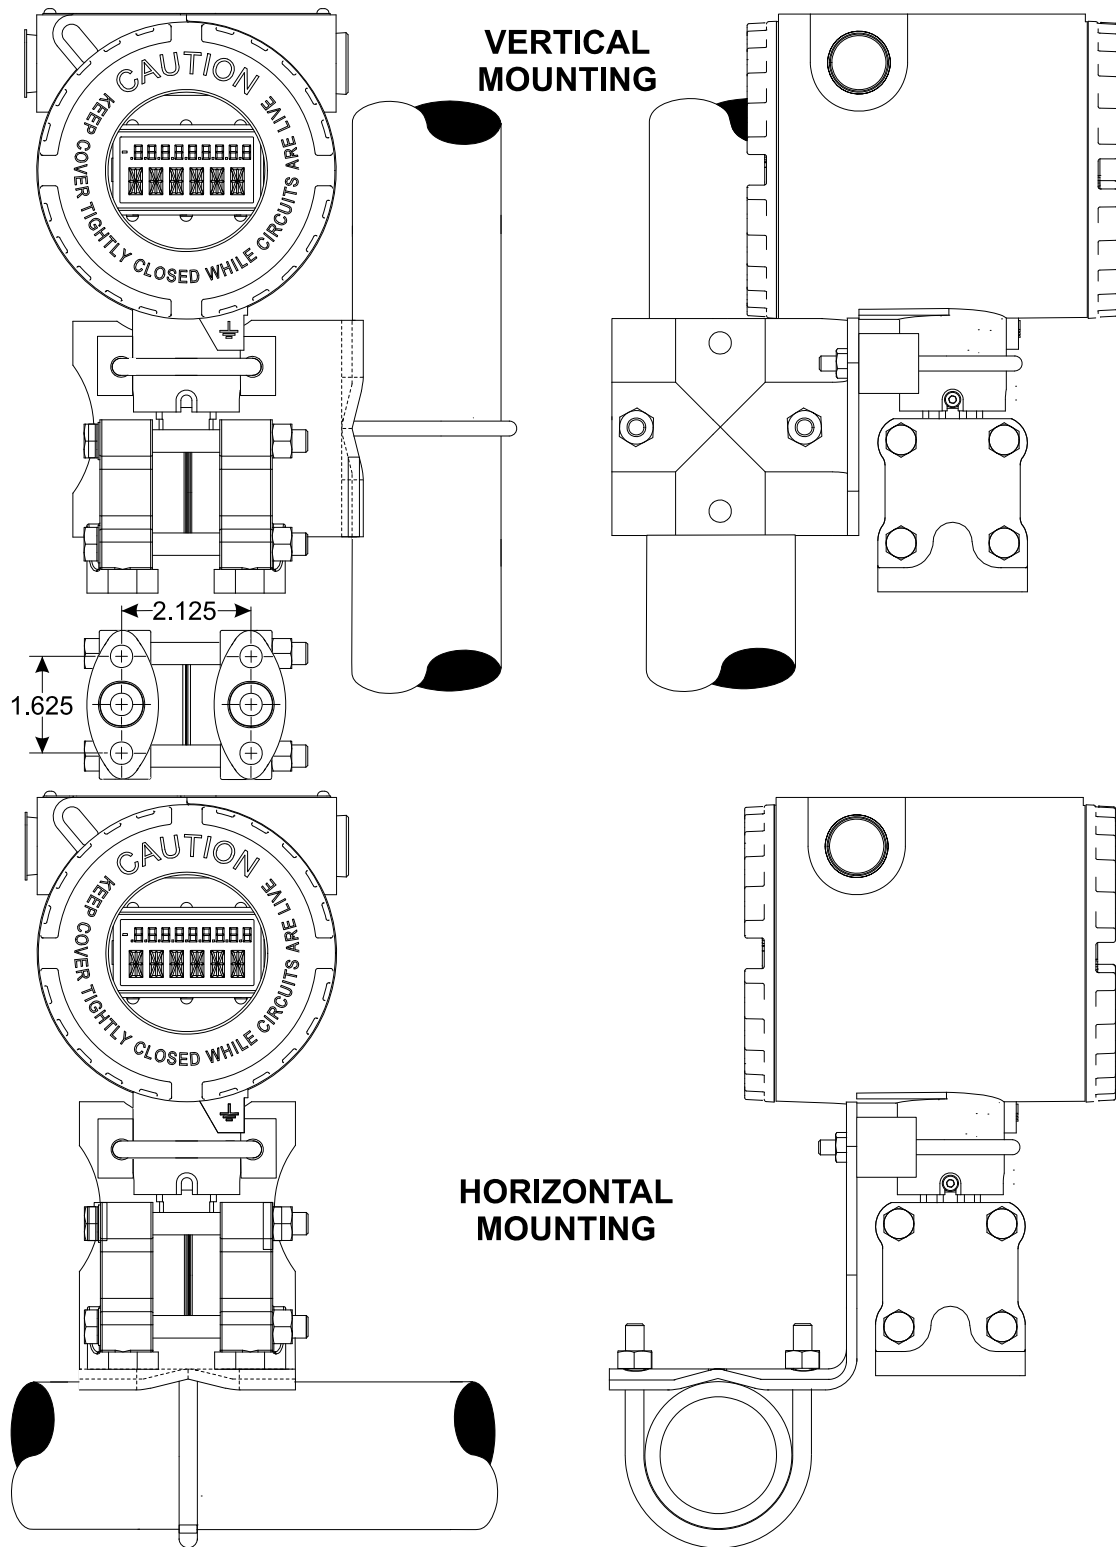
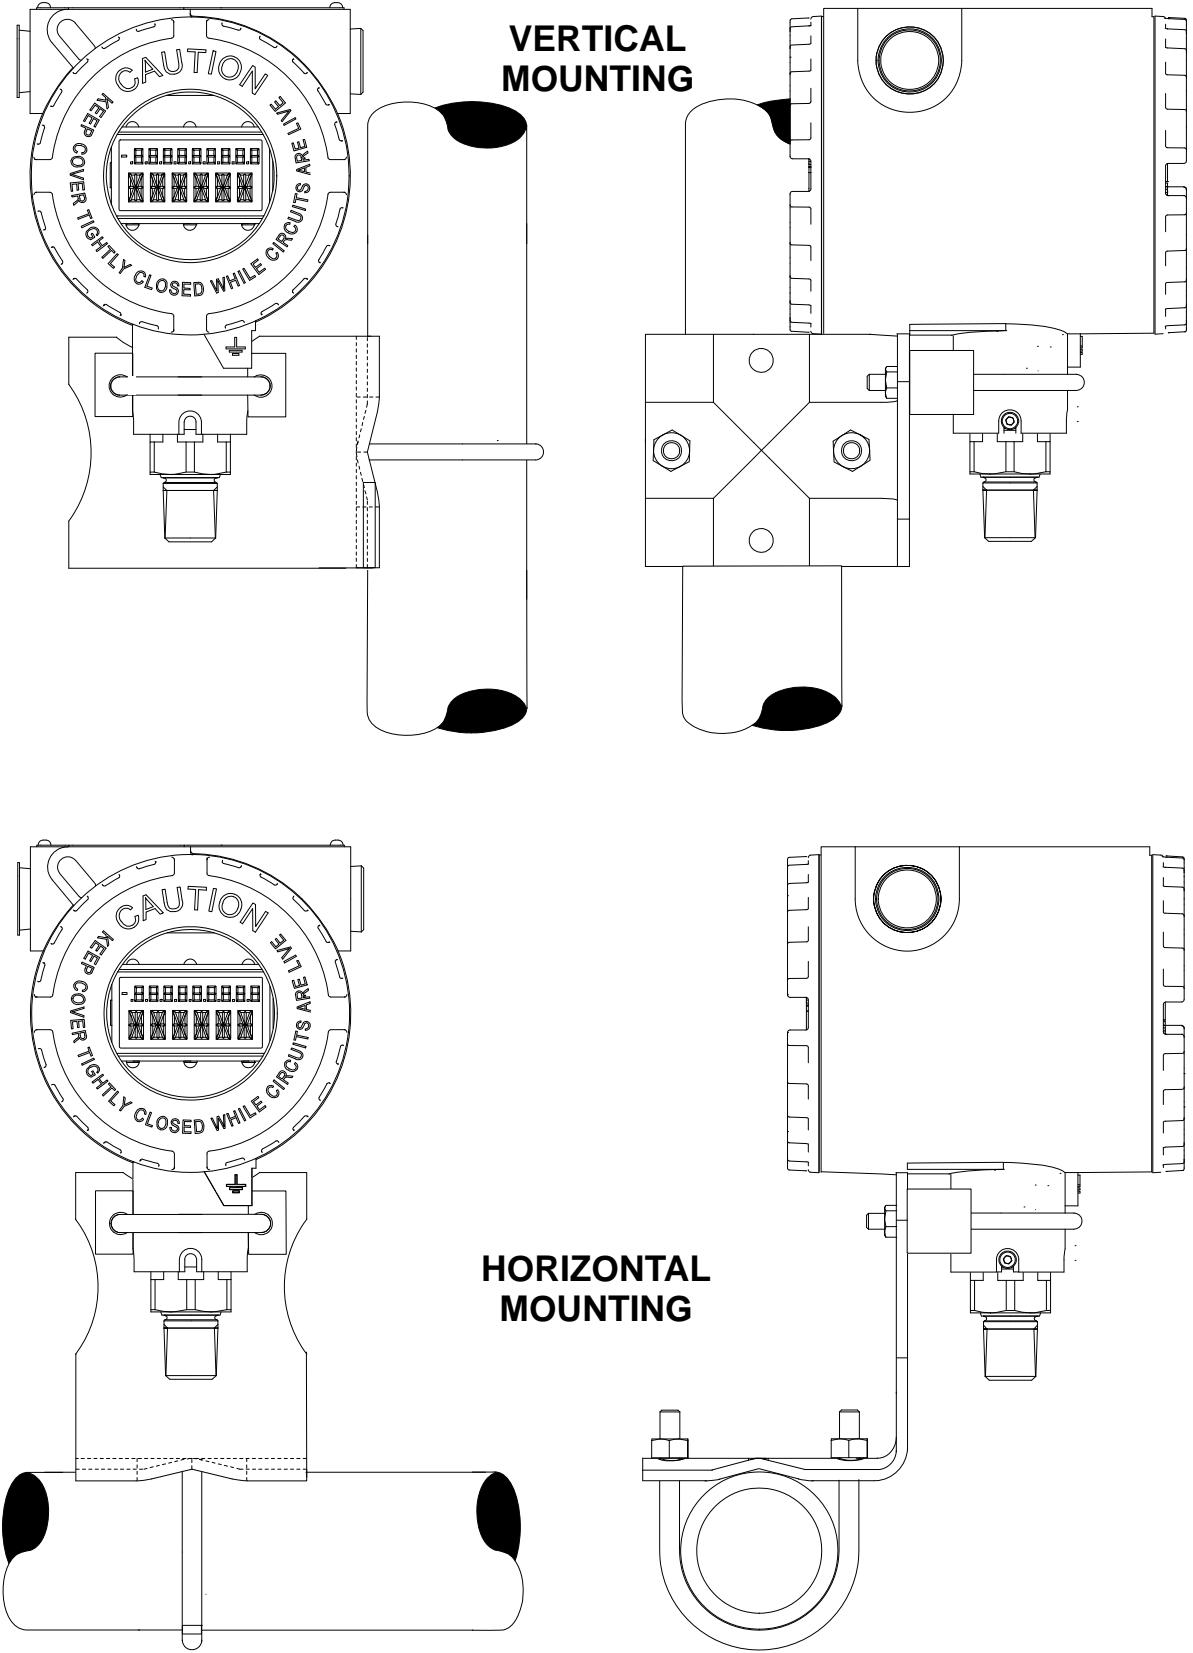

Figure 2-2. ControlWave XFC Pipe Mounting Diagram (Unit shown with MVT)
Figure 2-3. ControlWave XFC Pipe Mounting Diagram (Unit shown with GPT)
- Position the unit vertically with the transducer (MVT or GPT) at its base. Only units equipped with a multivariable transducer (*Figure 2-2*) may be mounted directly to the “Main” (meter run) utilizing a process manifold or they can be mounted remotely to a vertical or horizontal 2” pipe (via a pipe clamp, bracket, and adapter blocks) and connected to the process manifold using tubing. Units equipped with a gage pressure transducer can **ONLY** be mounted to a vertical or horizontal 2” pipe (via a pipe clamp, bracket, and adapter blocks) – see *Figure 2-3* and connected to the process manifold using tubing. If used, you must anchor the two inch pipe in cement (deep enough to conform to local building codes associated with frost considerations).